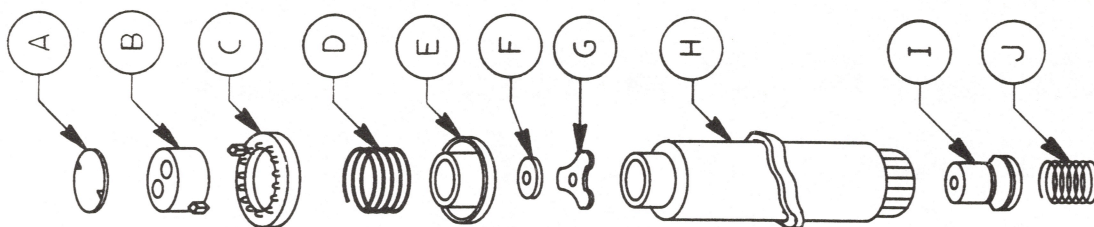

FIGURE 16
□ **IMAGEWRITER II - COLOR RIBBON ASSEMBLY (Figure 16)**